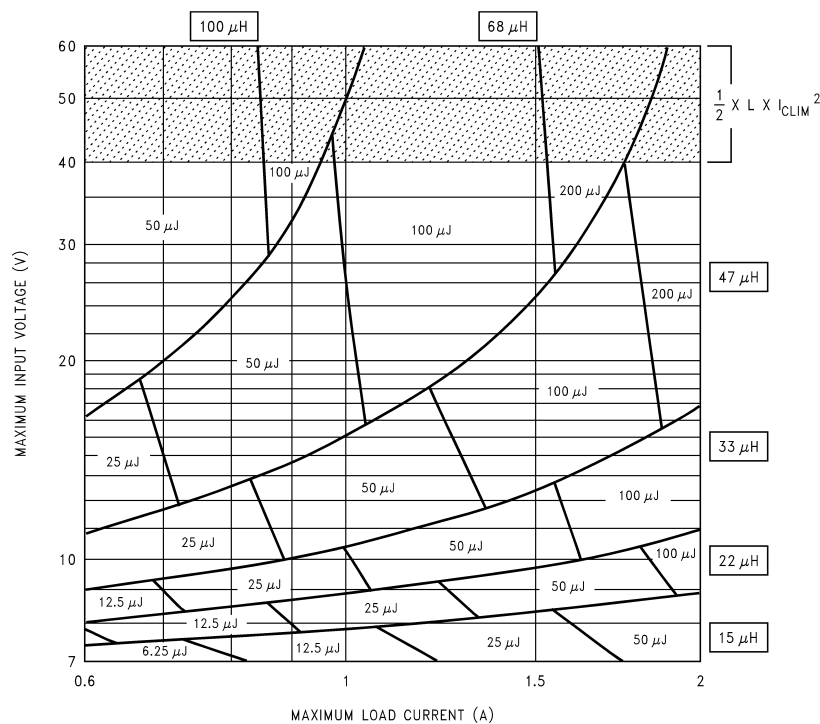

Figure 26. LM2592HV-5.0
1. A first pass inductor selection is based upon *Inductance and rated max load current*. We choose an inductor with the Inductance value indicated by the nomograph (see Figure 26) and a current rating equal to the maximum load current. We therefore quick-select a $68\mu\text{H}/1\text{A}$ inductor (designed for 150 kHz operation) for this application.
2. We should confirm that it is rated to handle $50 \mu\text{J}$ (see Figure 26) by either estimating the peak current or by a detailed calculation as shown in AN-1197, and also that the losses are acceptable.
1. A first pass inductor selection is based upon *Inductance and the switch current limit*. We choose an inductor with the Inductance value indicated by the nomograph (see Figure 26) and a current rating equal to I_{CLIM} . We therefore quick-select a 68μH/4A inductor (designed for 150 kHz operation) for this application.